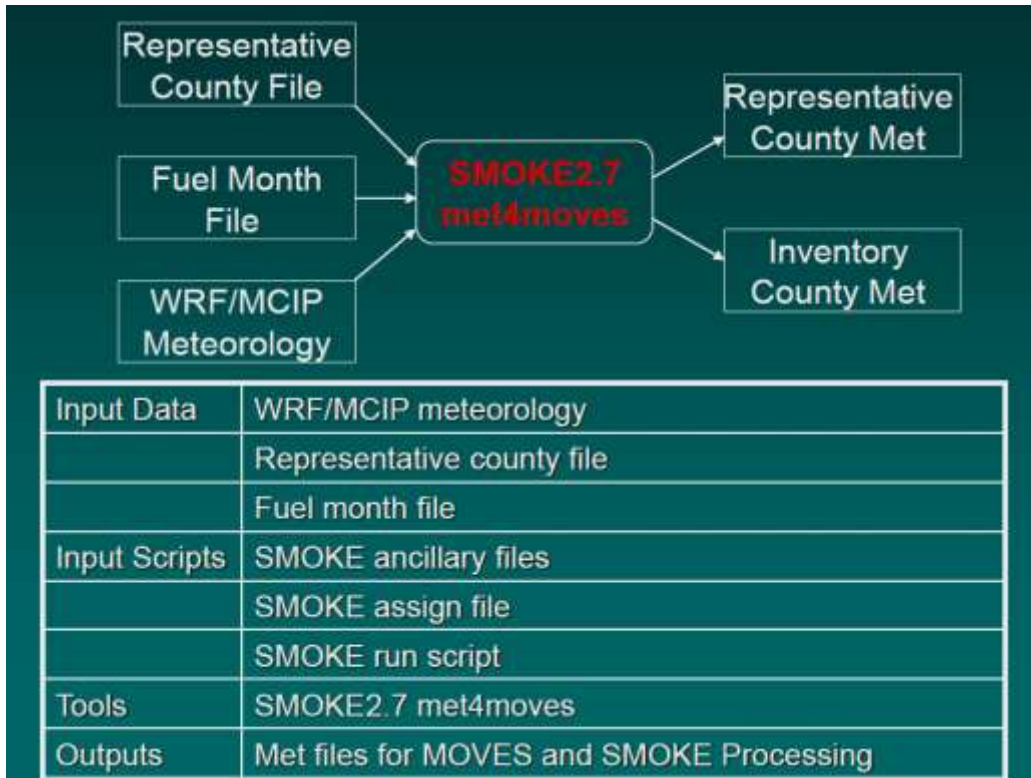

Figure 9. A simplified flow chart of met4moves input and output files
Met4moves is a meteorological preprocessor that determines minimum and maximum temperatures, temperature profiles, and average relative humidity (RH) for each representative county in MOVES lookup table runs. The required inputs, the representative county cross-reference file and the fuel month cross-reference file, are determined in Section 2.3 and are attached in the Appendix. The gridded hourly temperature and RH inputs are from 2007 WRF meteorology processed with MCIP. The other required SMOKE ancillary files and scripts are adopted from the release of the SMOKE-MOVES Integration Tool. Figure 9 gives a simplified flow chart of met4moves processing.